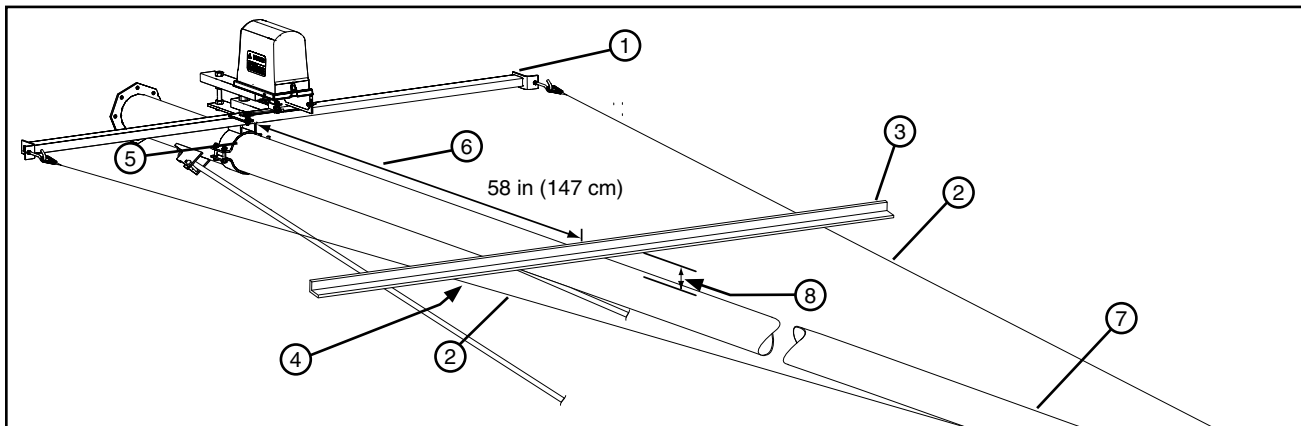

Figure 82-1 1. T-bar
2. Position the truss spreader across the safety cables at approximately 58 in (147 cm) from the alignment mounting bracket. See Figure 82-1.
3. Hold and support the truss spreader across the safety cables and measure the distance from the truss spreader to the span pipe. This is the ORIGINAL measurement. See Figure 82-1.